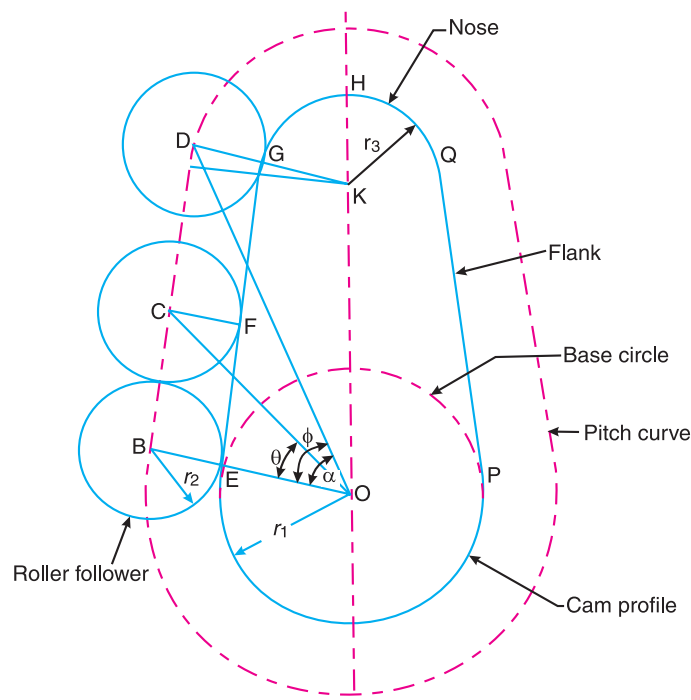

Fig. 20.40. Tangent cam with reciprocating roller follower having contact with straight flanks.
When the flanks of the cam are straight and tangential to the base circle and nose circle, then the cam is known as a **tangent cam**, as shown in Fig. 20.40. These cams are usually symmetrical about the centre line of the cam shaft. Such type of cams are used for operating the inlet and exhaust valves of internal combustion engines. We shall now derive the expressions for displacement, velocity and acceleration of the follower for the following two cases :
1. When the roller has contact with straight flanks. A roller having contact with straight flanks is shown in Fig. 20.40. The point O is the centre of cam shaft and the point K is the centre of nose. EG and PQ are straight flanks of the cam. When the roller is in lowest position, (*i.e.* when the roller has contact with the straight flank at E), the centre of roller lies at B on the pitch curve. Let the cam has turned through an angle* θ (less than ϕ) for the roller to have contact at any point (say F) between the straight flanks EG . The centre of roller at this stage lies at C . Therefore displacement (or lift or stroke) of the roller from its lowest position is given by